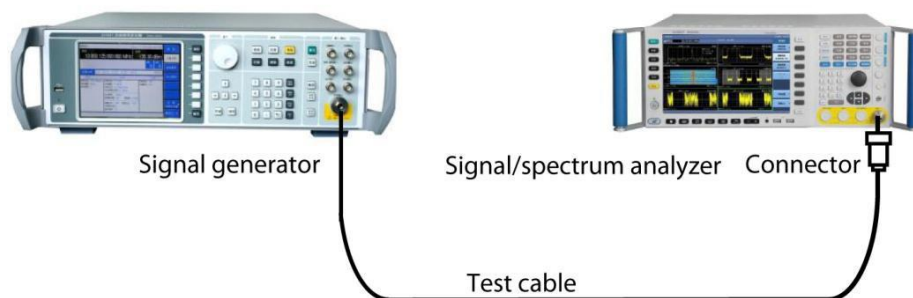

Fig. 4.69 Connection Settings of Power Statistical Measurement
Step 2: Connect the radio frequency output port of the signal source to that of the analyzer. As shown in Fig. 4.69: